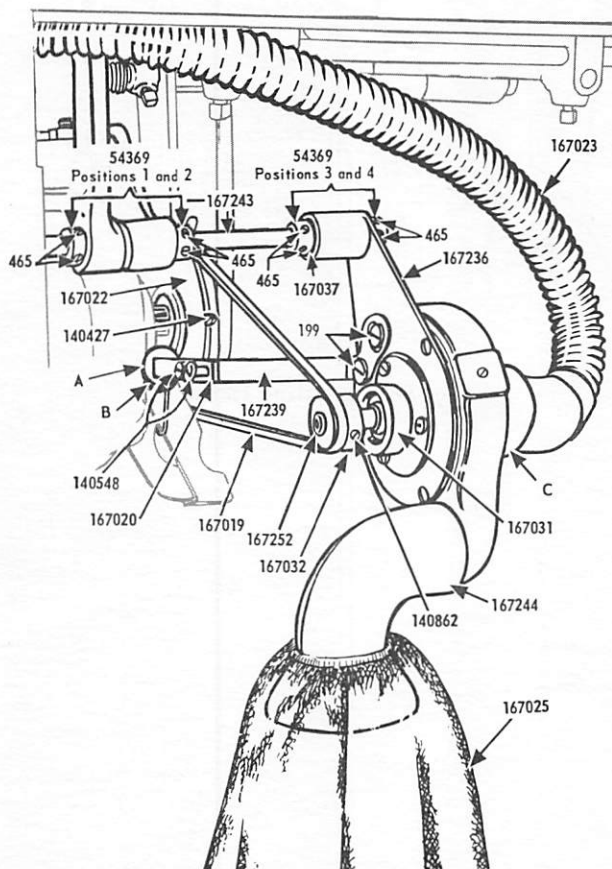
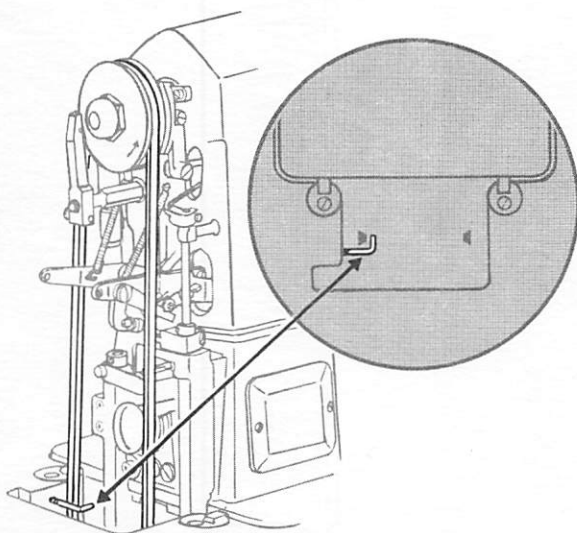

Fig. 56. Installing Blower Unit
Fig. 57. Installing Hose Belt Guard
NOTE: Before installing blower unit, assemble belt tightener to bottom of table using hinge pin 167243 and two collars 54369 in Positions 1 and 2, as shown in Fig. 56. Install blower connection hose belt guard as shown in Fig. 57.
4. Blower bracket 167236 is furnished with grommet 167037. Grommet is pressed fitted in bracket support hole and expands immediately outside both ends of hole. Install blower bracket on hinge pin with two collars 54369 in Positions 3 and 4 as shown in Fig. 56.
9. Loosen two set screws 465 in each of two collars 54369 at Positions 1 and 2 as shown in Fig. 56.